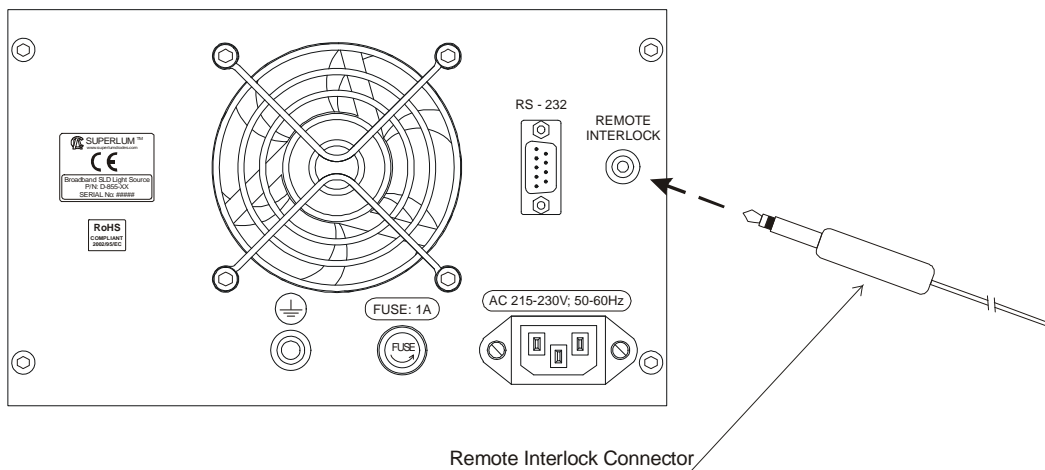

FIGURE 1.3. Rear-Panel Laser Safety Features
- ❑ **Remote interlock connector**—This feature, located on the rear panel of the instrument, allows the instrument to be connected to your local external controls for laser safety (see Figure 1.3). The instrument is inoperable unless the interlock connection is made. If there are no external controls in your local area or the use of these controls is not essential for you, an appropriate short-circuited connector must be installed to the rear-panel remote interlock jack. With this connector installed, you will be able to use the instrument independently of your local laser safety system. The necessary connector is supplied with the instrument.